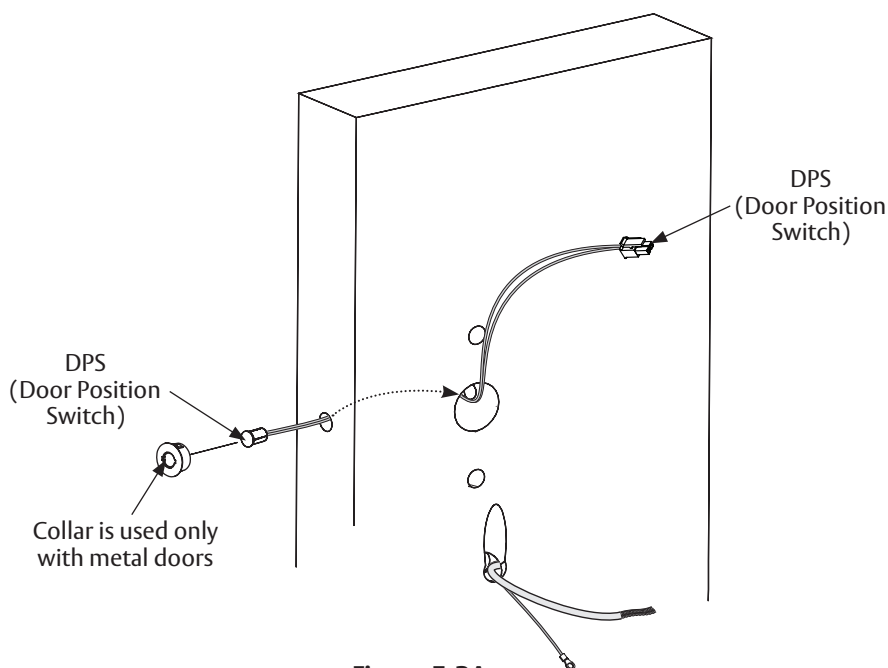

Figure 5-2A
1. Insert connector end of DPS through the raceway on the latch edge of the door (Figure 5-2A).